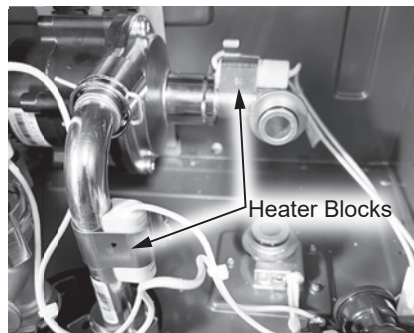

Figure 181 - Heater block locations
**21** Locate the two heater blocks attached to the pump inlet elbow and the pump outlet tube as shown in Figure 181. Remove brackets (size 16) securing heater blocks to pipe connections. Place brackets aside in a safe place for reinstallation. Route heater blocks and wiring inside water heater cabinet for ease of access to water pump.
**33** Locate the two (2) heater blocks and brackets (size 16) previously removed in **Step 21**. Secure heater blocks to pump inlet elbow and pump outlet tube as shown in Figure 181.